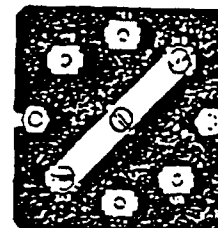

Fig. 7 - Adjustable voltage link. (On back of chassis.)
1. Loosen the center screw (Fig. 7).